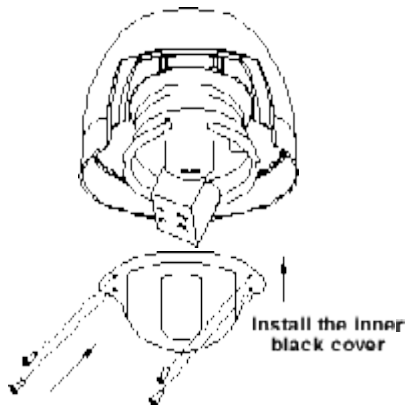

Figure 5
- 3) Install the inner black cover (Figure 5).